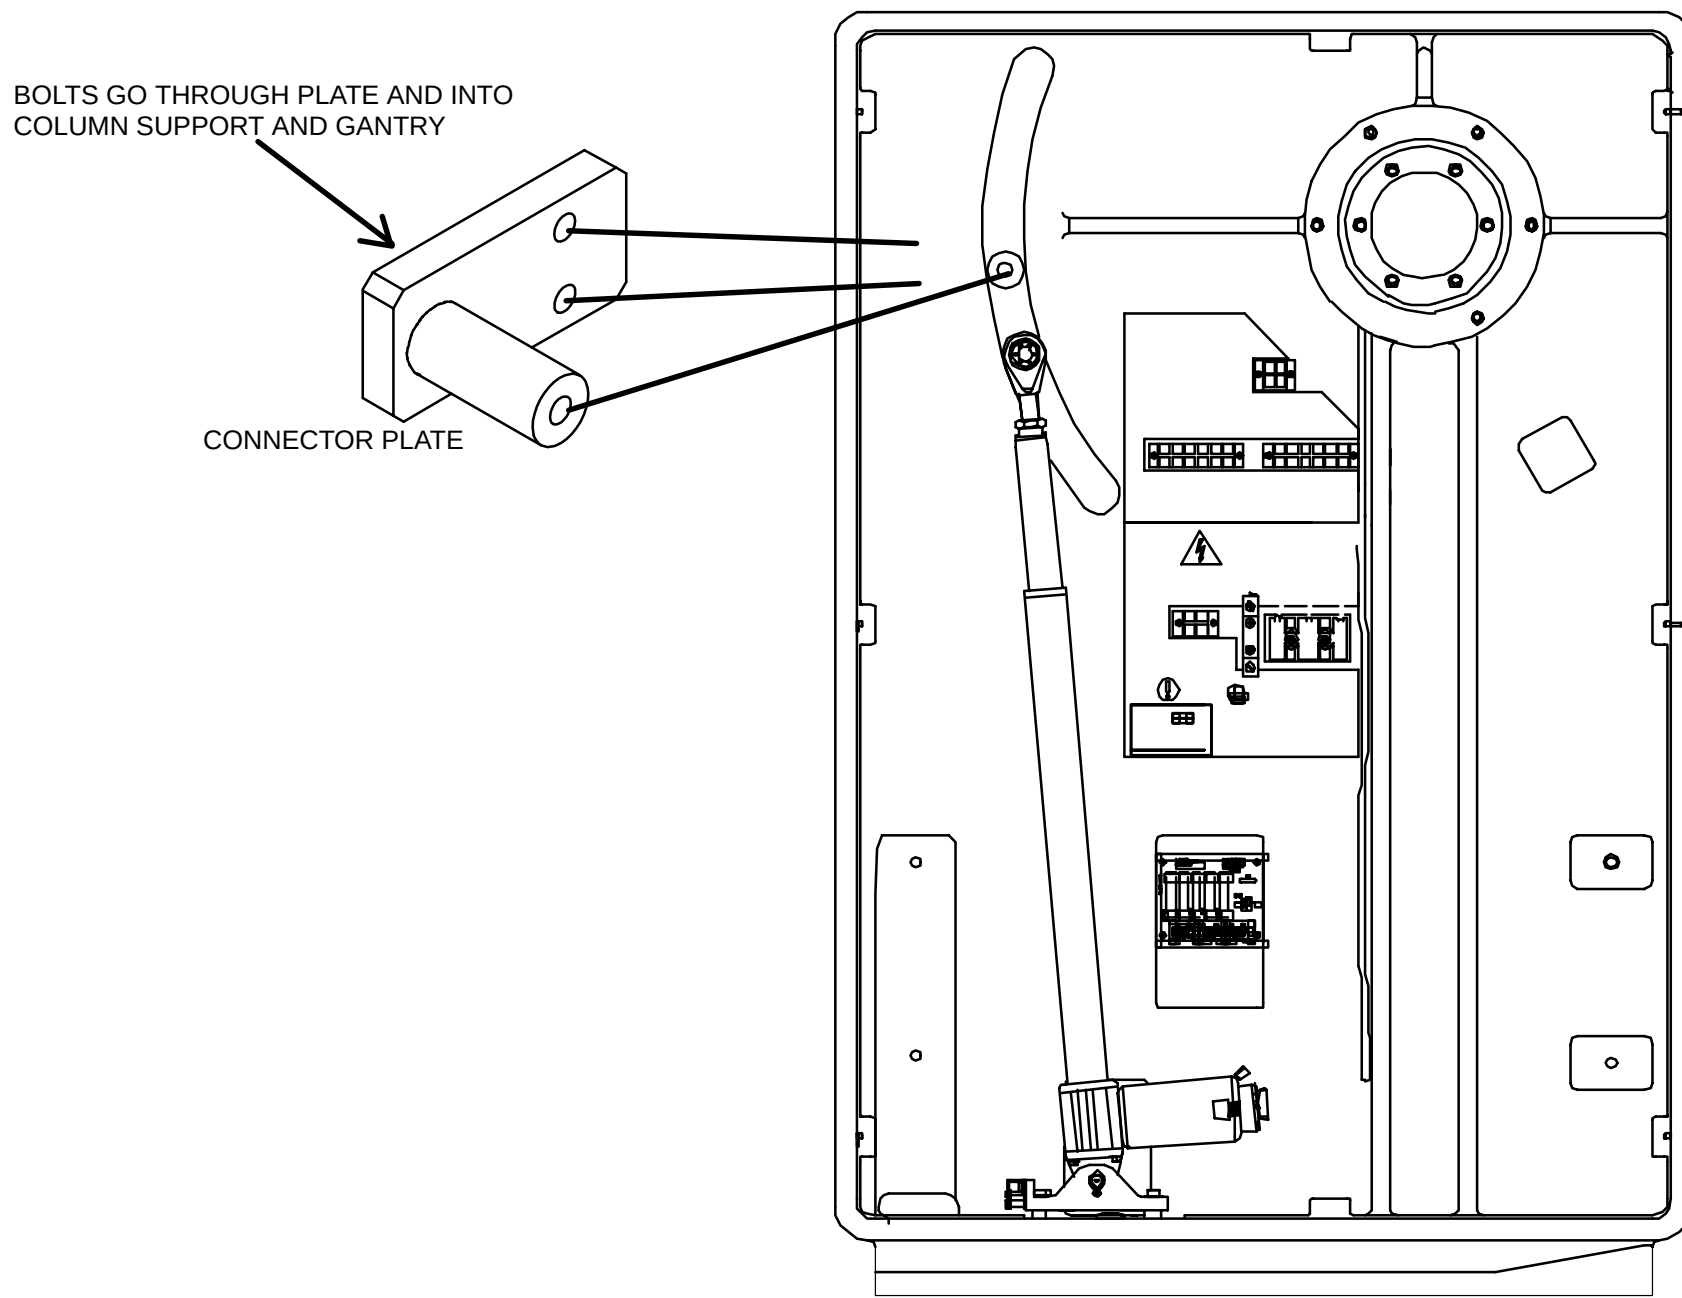

FIGURE 24 COLUMN CONNECTOR PLATE AND COLUMN SUPPORT LOCATIONS – (Approx. first 14 systems)
6. Remove the Connector Plate by removing the two bolts that secure it. The Column Support bar will be removed AFTER the gantry is aligned and the casters are removed. DO NOT attempt to remove them now. Refer to Figure 24.